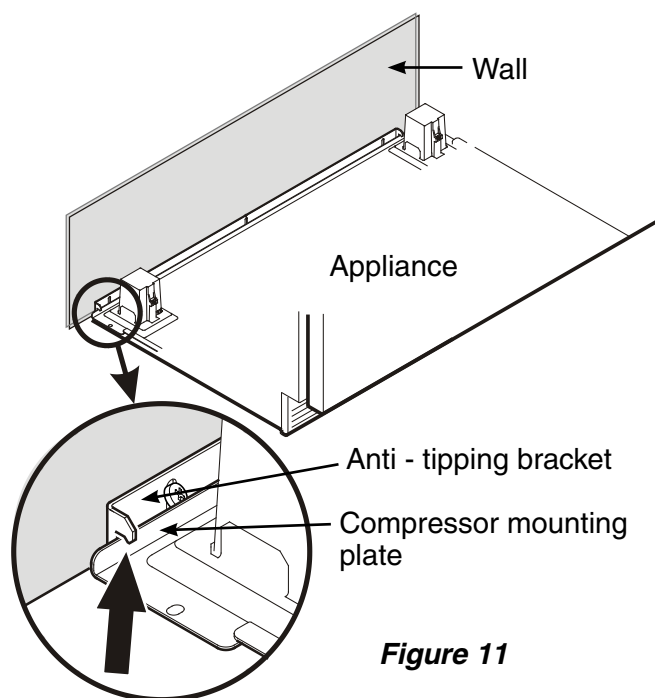

Figure 11
6. Push the appliance slowly to the back wall until the compressor mounting plate makes contact with the anti-tipping bracket (**Figure 11**).
To prevent the appliance from tipping forward the compressor mounting plate must have contact with the anti tipping bracket (Figure 11).